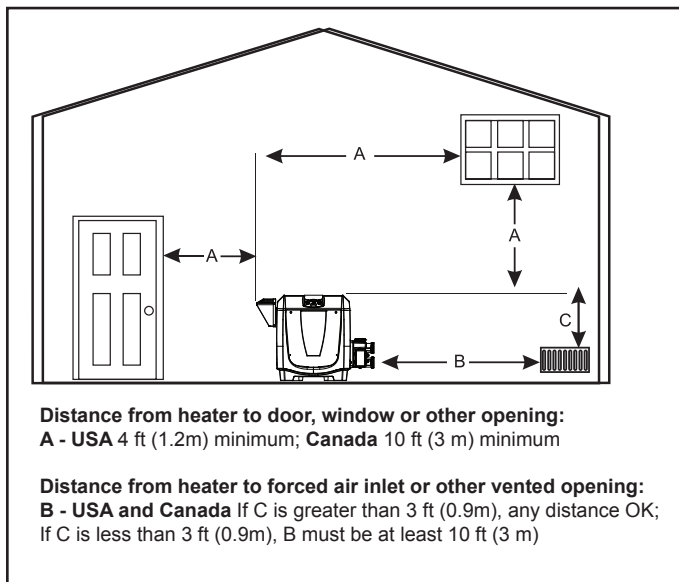

Figure 3. Outdoor Heater Installation
- In Canada, install the heater so that the top of the vent is at least 10 feet (3.0 m) from any building opening. See Figure 3.
- In the United States install the heater so that there is at least a three (3) foot (1 m) clearance between the bottom of the overhang to the top of the heater exhaust vent.